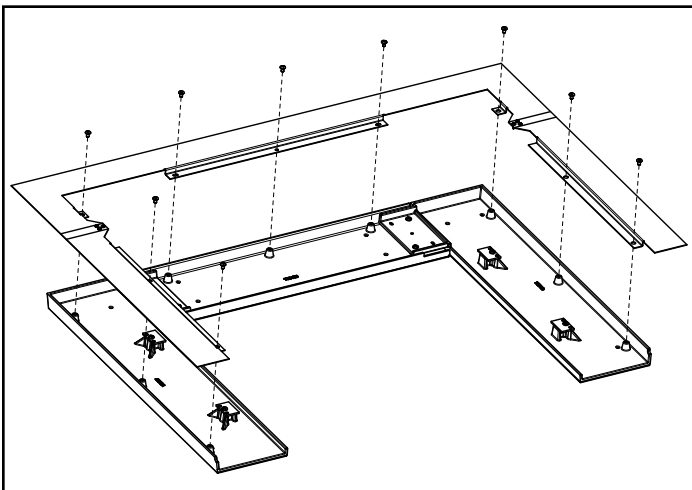

Figure 5.16
1. Align holes from Surround Extension Assembly as shown in **Figure 5.16**.
2. Using a Phillips Head screwdriver and nine (9) 1/4 -20 x 3/8 Phillips head screws; secure Panel Extension Assembly to Cast Surround Assembly.